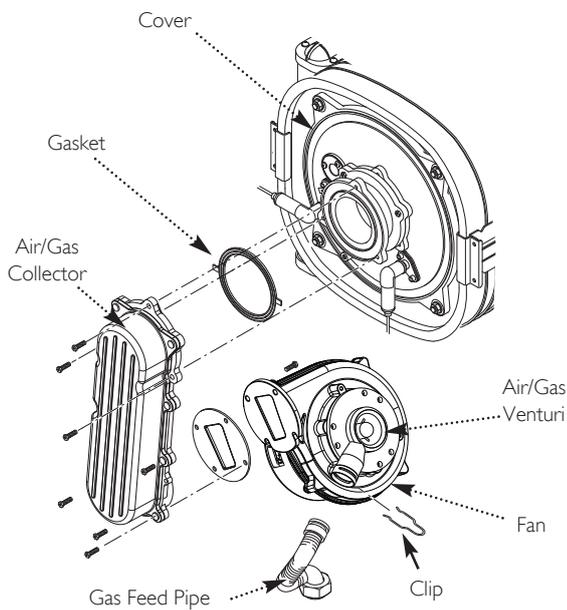

Fig. 50
13.2 Fan (Fig. 50)
2. Undo the screws securing the air/gas collector to the extension piece and disconnect the fan electrical plugs (Fig. 50).
13.3 Air/Gas Venturi (Figs. 50 & 51)